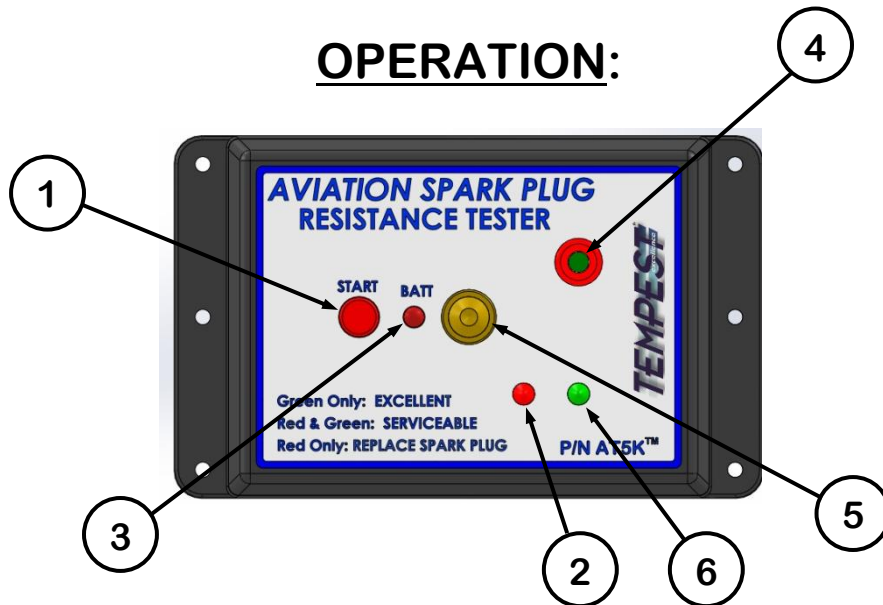

Figure 2
Press the red button (1), see Figure 2. The red test LED (2) will illuminate. Note: If the battery is low, LED (3) will flash brightly. The AT5K™ will automatically turn itself off.